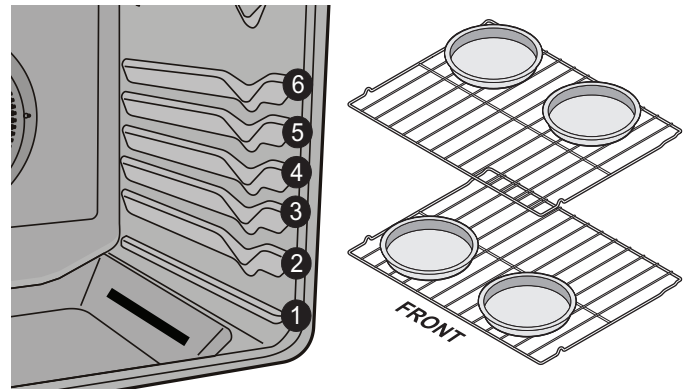

Figure 20: Rack positions and pan placement
- For best results when baking layer cakes using two oven racks, place racks in positions 3 and 6 and place pans as shown in Figure 20.